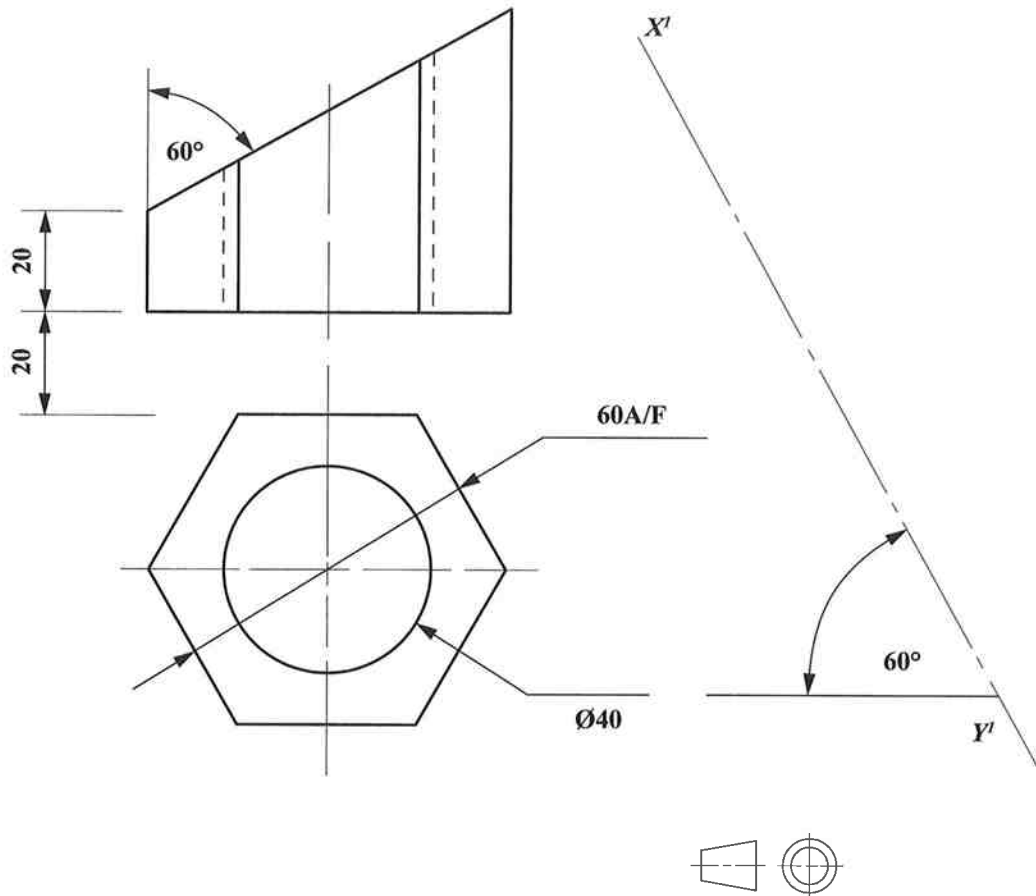

Figure 6
7. **Figure 6** shows the plan and elevation in orthographic projection of a truncated hexagonal prism. Draw